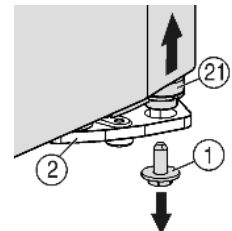
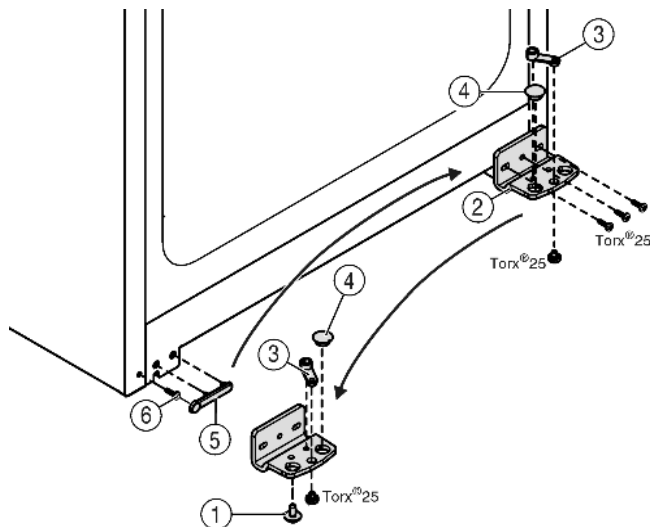

Fig. 4
Fig. 5
- ▷ The bearing pin *Fig. 4 (21)* should come out of the turn hinge *Fig. 5 (2)*.
- ▶ If the bearing pin *Fig. 4 (21)* does not come out, press the pin out from underneath.
- ▶ Unscrew the turn hinge Fig. 5 (2).
- ▶ Unscrew the bearing element, Fig. 5 (3) transfer it to the opposite location hole of the turn hinge and screw it firmly into place.
- ▶ Take the stopper Fig. 5 (4) out of the turn hinge and transfer it to the receiving hole on the opposite side of the turn hinge.
- ▶ Carefully lift off the cover Fig. 5 (5) on the handle side.
- ▶ Undo the screw Fig. 5 (6) and transfer it to the opposite side.
- ▶ Put the cover Fig. 5 (5) back on.
- ▶ Screw the turn hinge Fig. 5 (2) firmly into place on the new hinge side (**with 4 Nm**), possibly using a power screwdriver.
- ▶ Insert the securing screw Fig. 4 (1) at the bottom into the bearing pin and tighten it (**with 4 Nm**).